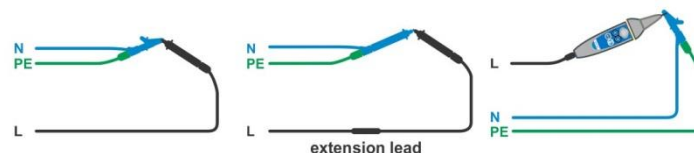

Figure 7.20: Shorted test leads
- › Connect test cable to the instrument and short the test leads together, see **Figure 7.20**.